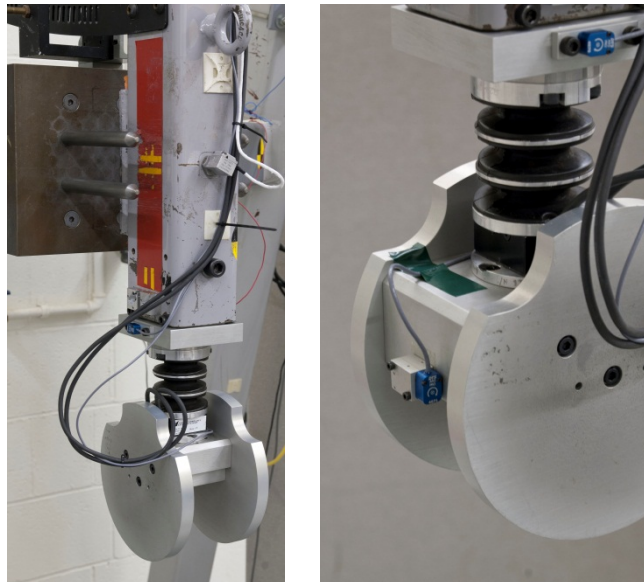

Figure 43. Tape and strain-relieve instrumentation wiring
- Tape and strain-relieve the instrumentation wiring leaving plenty of slack for neck extension (Figure 43).
- In addition, zero all instrumentation channels with the pendulum vertical (Figure 43).